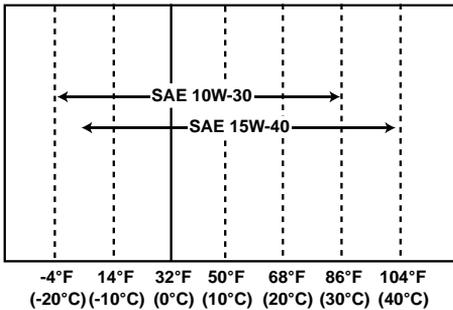

Figure 5
3. *Select the oil viscosity based on the ambient temperature where the engine is being operated. See the SAE Service Grade Viscosity Chart (**Figure 5**).*
Select the appropriate engine oil viscosity based on the ambient temperature shown in the SAE Service Grade Viscosity Chart (Figure 5).